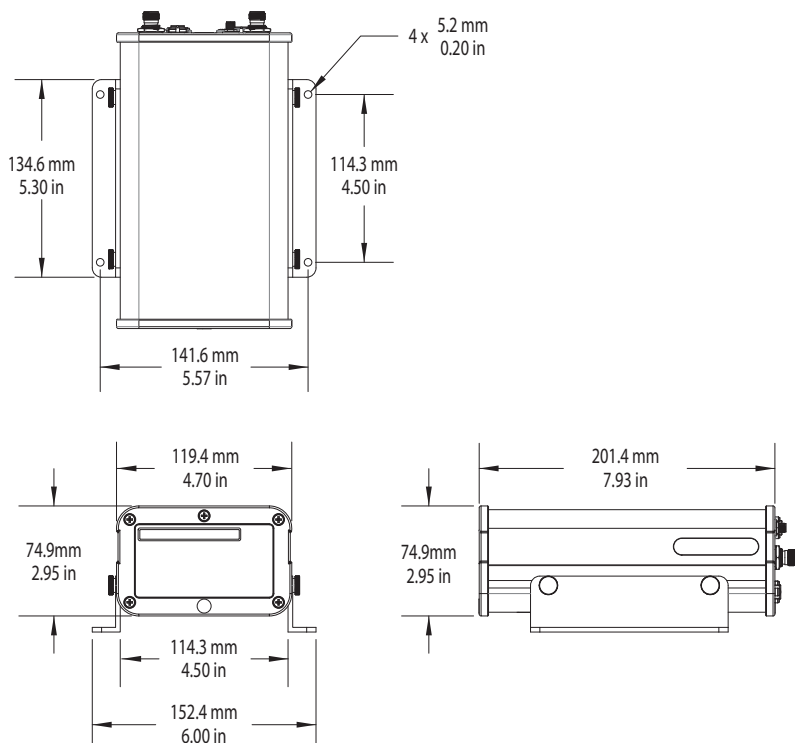

Figure 3-4: VS330 dimensions with mounting brackets
Figure 3-4 shows the dimensions (including attached mounting brackets) of the VS330. Use Figure 3-4 when using the receiver mounting procedure that follows.
2. Slide the nuts through the opening (circled at right) along both sides of the receiver (see also Figure 3-4 above).